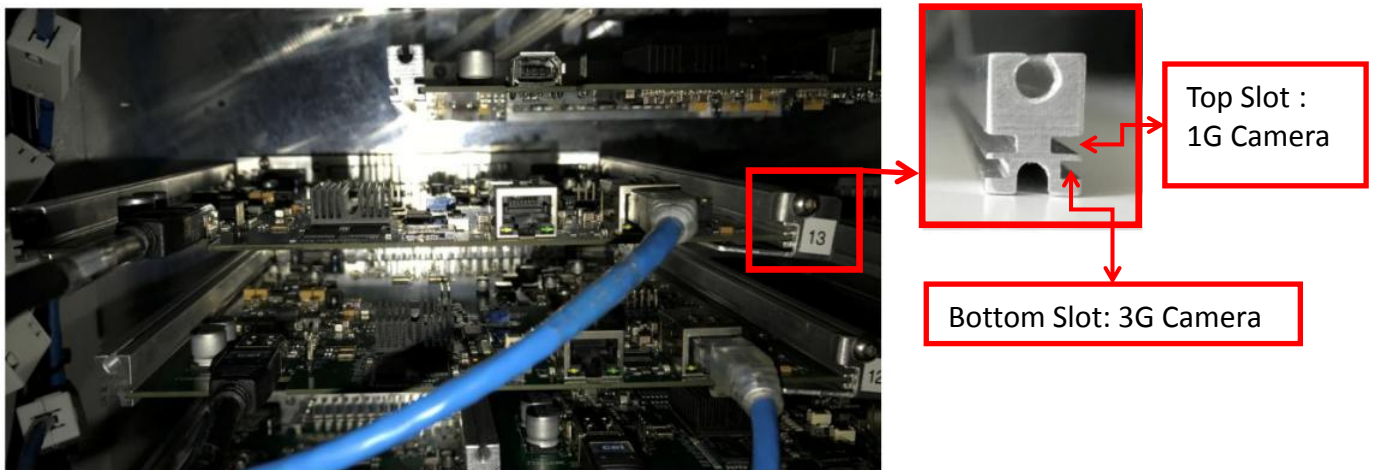

Figure 17 3G Camera Slider Slot
10. Gently slide X ray Camera into particular Slider Slot by refer to below orientation May refer to Figure 17